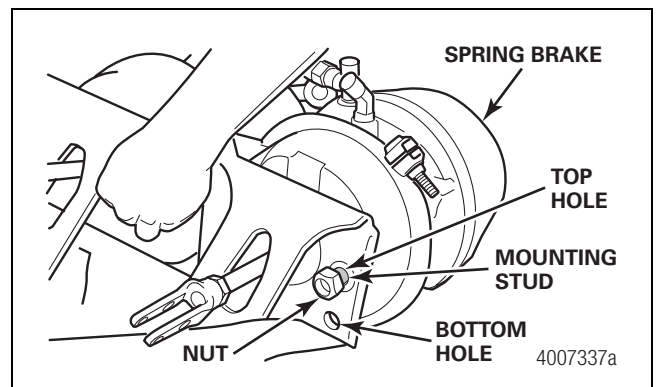

Figure 32
- Install the spring brake chamber mounting studs onto the replacement axle bracket through the same holes they were originally installed. Install the nuts and tighten them to 80-125 lb-ft (108-169 N•m). Figure 32. 🔩